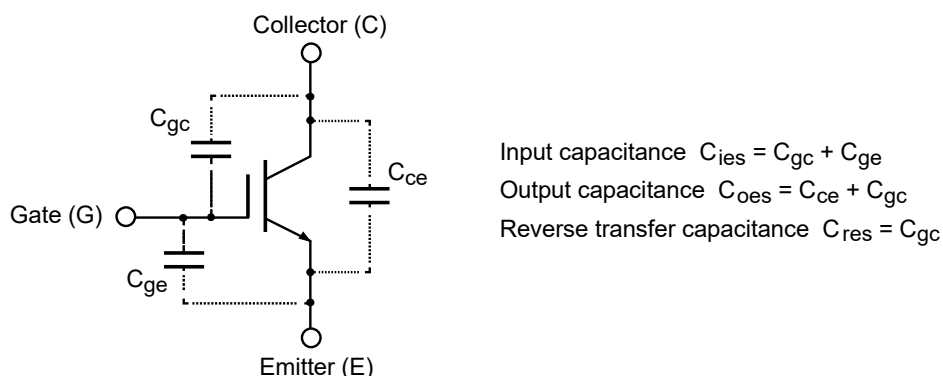

Figure 2-1 Gate Capacitance Explanation
1) Figure 2-1 shows a diagram explaining parasitic capacitance.